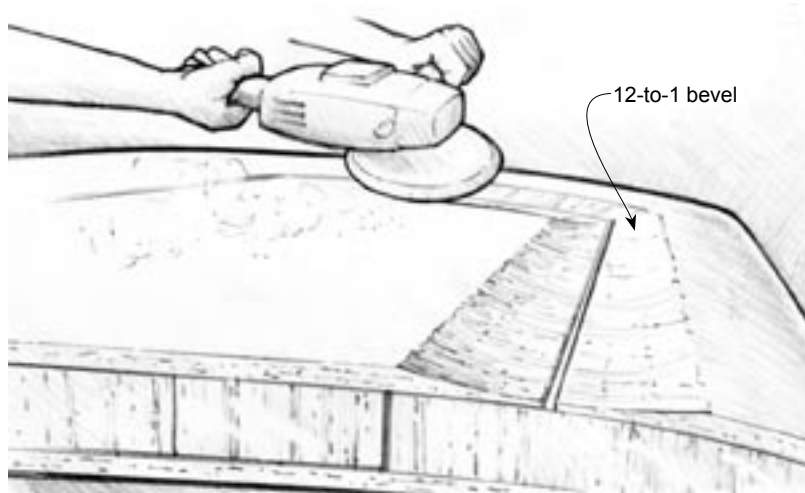

Figure 5-7 Grind a 12-to-1 bevel on the edges of the joint, so the joint repair patch can be faired flush with the surface.
3. Grind a 12-to-1 bevel on both edges of the joint and laminate a repair patch over the joint to restore skin continuity (*Figure 5-7*). The bevel will provide a recessed bonding area for the application of epoxy/glass fabric and allow the patch to be faired flush with the surface. The objective and procedure for patching the joint are the same as repairing damaged skins. Follow the procedure described in Section 4.3.